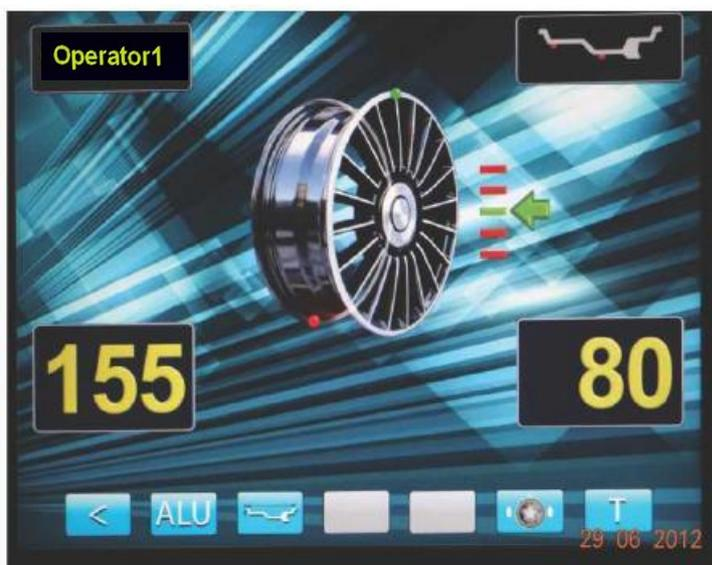

fig. 12.1
12.1.6. Start the WB by lowering the wheel guard or pressing the button «START». The image of the wheel disc on the main working mode screen will start to rotate. After the measurement cycle is complete the braking device will stop the WB shaft. Windows 1 and 4 will display the value for the mass of the balancing weights and the image of the disk will show two red dots in the places where the weights should be added. (fig. 12.1).